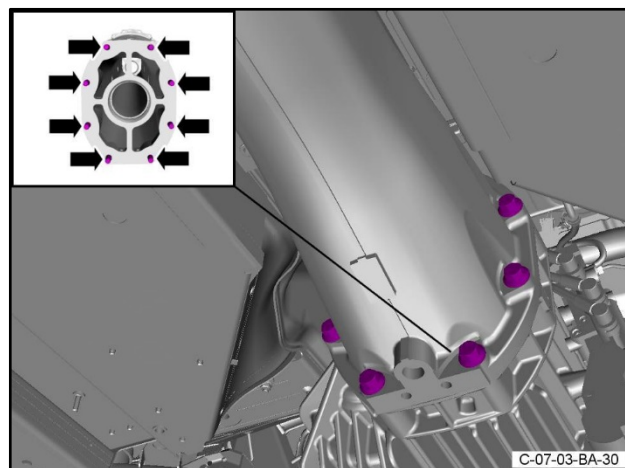

Figure 27
50. Remove the eight bolts that attach the transaxle to the torque tube (refer to Figure 27).